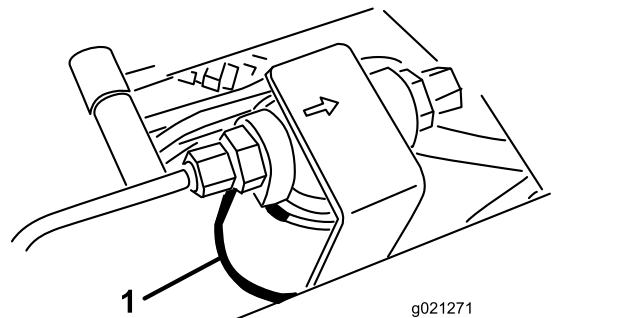
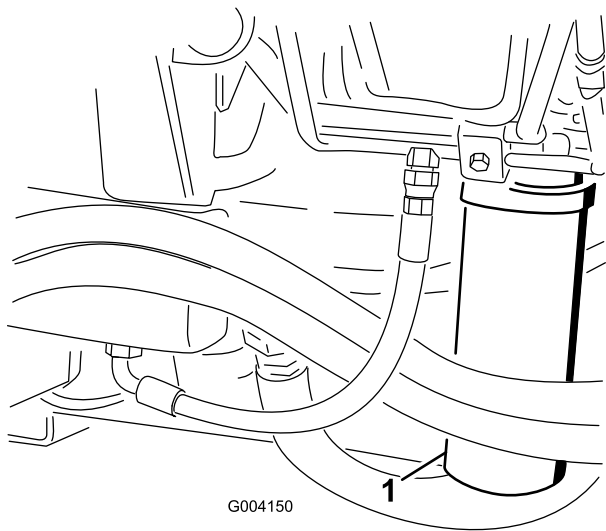

Figure 90
Figure 91
2. Clean the area around the filter-mounting area and place a drain pan under the filter (Figure 90) and (Figure 91).